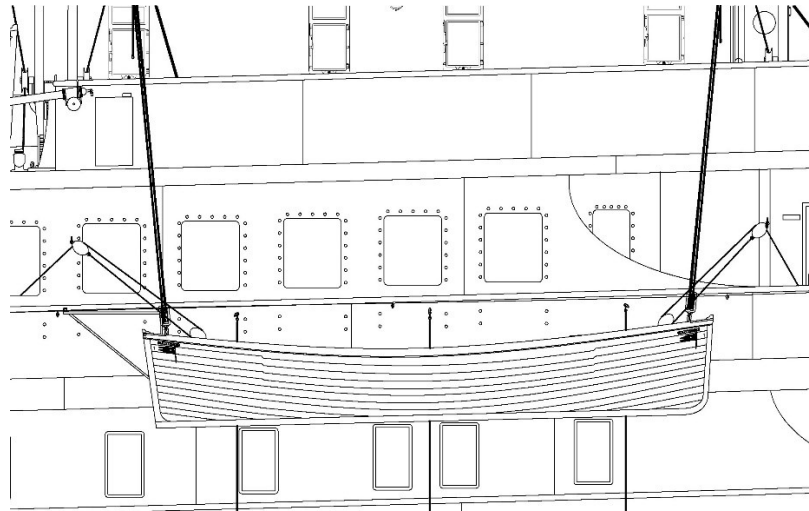

Figure 8
Step 4: The boat is lowered down to A deck. The stationary blocks are attached to eyes on the A deck stanchions and promenade screen plating. The pendants of the traveling blocks of the rigging are brought aboard the boat and hitched around thwarts. Figure 8 illustrates this step.